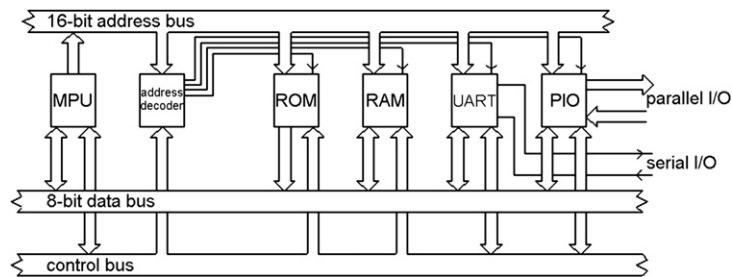

Figure 5.11:
Take a look first at a block diagram (Figure 5.11) for a computer, the standard diagram that was used for many years in (UK) City & Guilds 224 examinations for Electronic Servicing courses. Each block is of the same size on this diagram, and the names indicate the main parts of the computer (this is the main computer, not including items such as the keyboard, printer, or monitor). The main difference between this and linear circuit block diagrams (or between this any many other types of digital circuit block diagrams) is that there is no clear and obvious